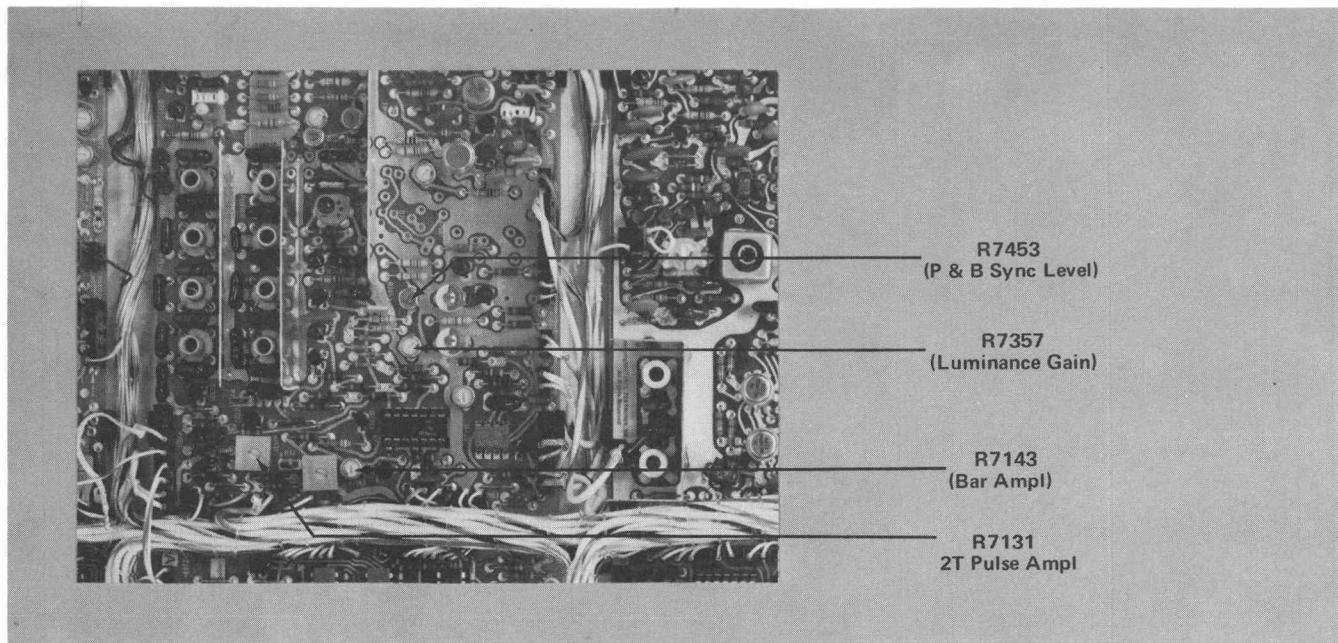

Fig. 2-12. Output Amplifier circuit board location of adjustments.
3. Adjust R7453 (P and B Sync Level), see Fig. 2-12, until the luminance level is aligned with the blanking level.
2. Adjust R7131 (2T Pulse Amplitude), see Fig. 2-12, for a peak pulse amplitude of 100 IRE.